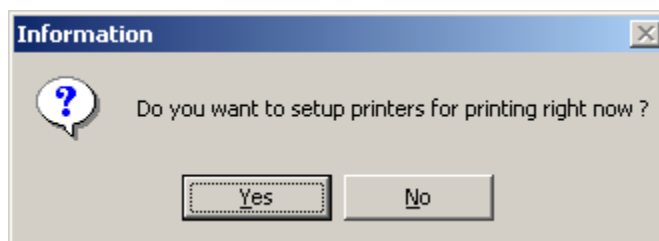

Figure 4-16 Add a Printer
1. You can reach this setup procedure by answering Yes to the previous Figure 4-16 Information. Or if you open the NETGEAR Print Server group and run NETGEAR Add Printer Wizard.